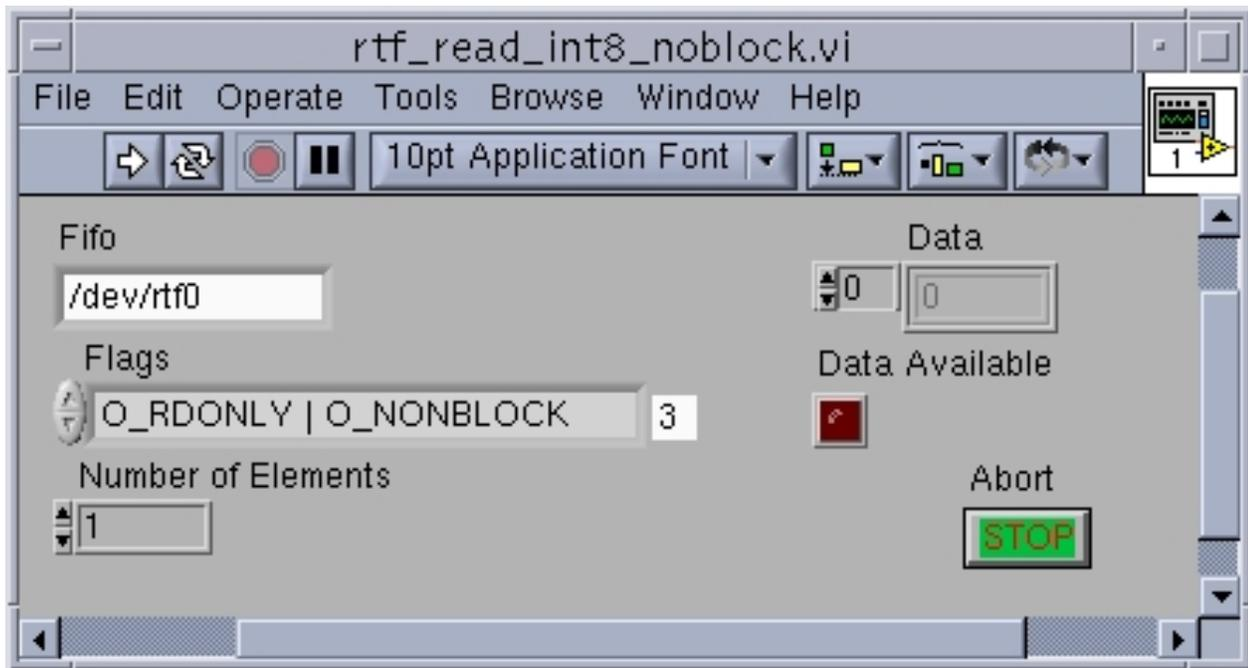
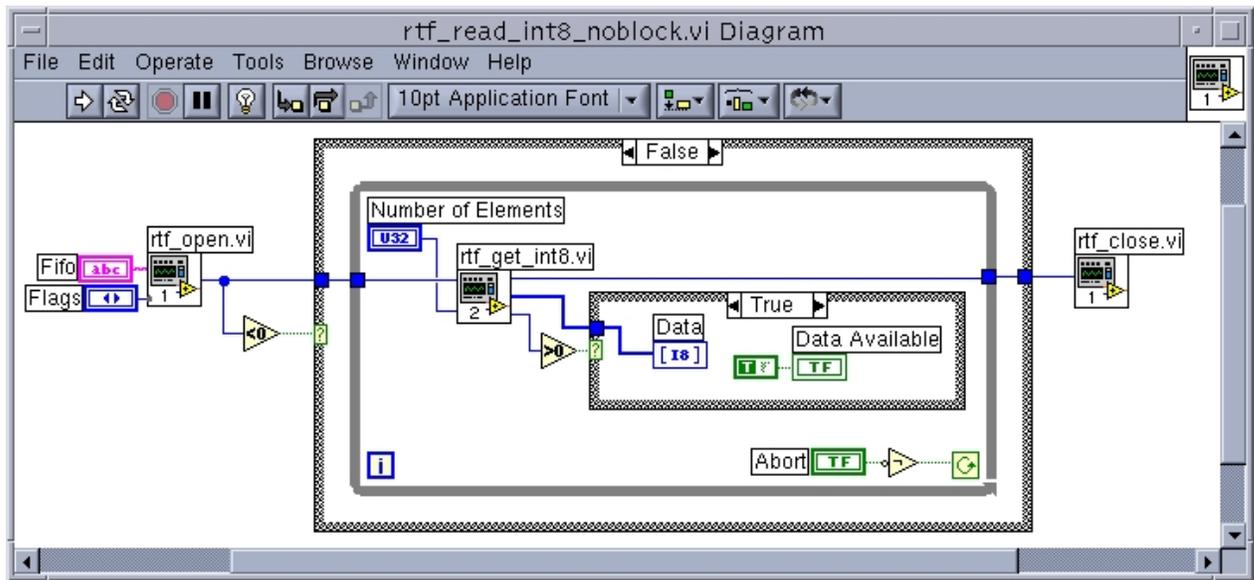

Figure 3.: rtf\_read\_int8\_noblock.vi Front Panel
Figure 4.: rtf\_read\_int8\_noblock.vi G-code Diagram
*Non-Blocking Reads* We provide no explicit traps for non-blocking reads but the library accepts that fifos can be opened in such a way. Such reads, typically, return a negative number when no data is available. In Figure 3 on page 8 we show an example of a VI for a non-blocking read of a single 8-bit integer from fifo 0. The associated G-code diagram is in Figure 4 on page 9 Note how we trap the return and indicate data is ready when the return value is positive.